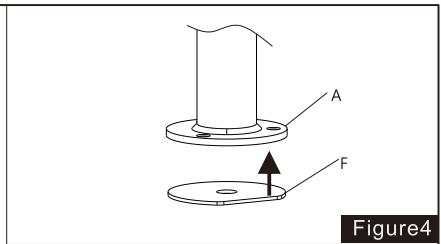

Figure 4
1. Attach Soft Pad(F) to the Grommet Base Plate(l), see Figure 4.